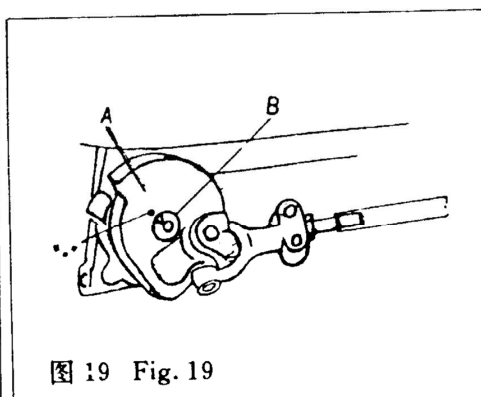

图 19 Fig. 19
(1) 钩线叉的基本位置 钩线叉的基本位置由钩线叉曲柄“A”与主轴“B”的位置决定。安装时应将曲柄上的圆点“·”标记对准主轴上的“V”形槽中心时, 将钩线叉曲柄固定(图 19)。
Basic position of thread hook is decided by positions of crank "A" of thread hook and main shaft "B". When the mark "." on the crank coincides with the center of "V" groove on the main shaft, fix the crank of thread hook in place (Fig. 19).
- ③ 调整钩线叉曲柄上的圆点“·”标记与主轴“V”形槽的相对位置(图 19)对钩线叉的左右位置也有影响。所以调整钩线叉的左右位置，必须根据具体情况，在上述三步骤中仔细选择和反复进行调整，才能达到最佳状态。
(2) Positioning of location for pronged thread hook
- ③ Adjustment of location of the mark "·" on the crank of thread hook in relation to "V" groove on the main shaft (Fig. 19) impairs the positioning of the location of the thread hook. Thus micro-adjustment of the position for thread hook shall be made accordingly. An ideal condition
①运动关系调整 通过调整钩线叉曲柄上圆点“·”标记相对于主轴“V”形槽位置(图 19)。
① Adjustment of timing relation by regulating the position of the mark “·” on the crank of thread hook and “V” groove on the main shaft (Fig. 19).